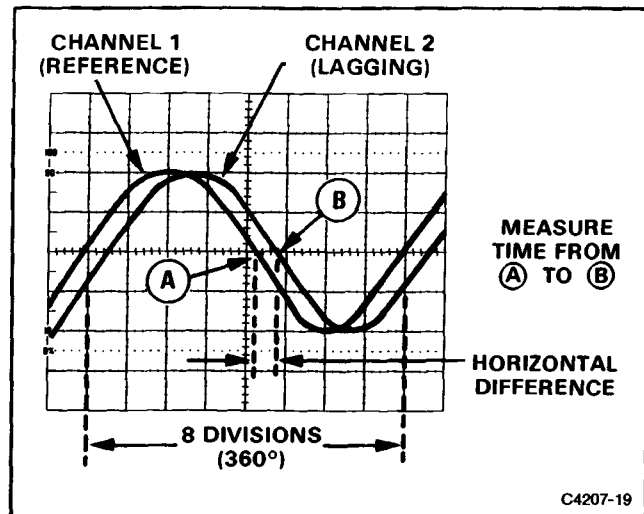

Figure 4-8. Phase difference.
9. Position the displays and adjust the SEC/DIV Variable control so that one reference-signal cycle occupies exactly 8 horizontal graticule divisions at the 50% rise-time points (see Figure 4-8). Each division of the graticule now represents 45° of the cycle ($360^\circ \div 8$ divisions), and the horizontal graticule calibration can be stated as 45° per division.
Example: The horizontal difference is 0.6 division with a graticule calibration of 45° per division as shown in Figure 4-8.
EXAMPLE: If the sweep speed were increased 10 times with the magnifier (X10 Magnifier button out), the magnified horizontal graticule calibration would be $45^\circ/\text{division}$ divided by 10 (or $4.5^\circ/\text{division}$). Figure 4-9 shows the same signals illustrated in Figure 4-8, but magnifying the displays results in a horizontal difference of 6 divisions between the two signals.